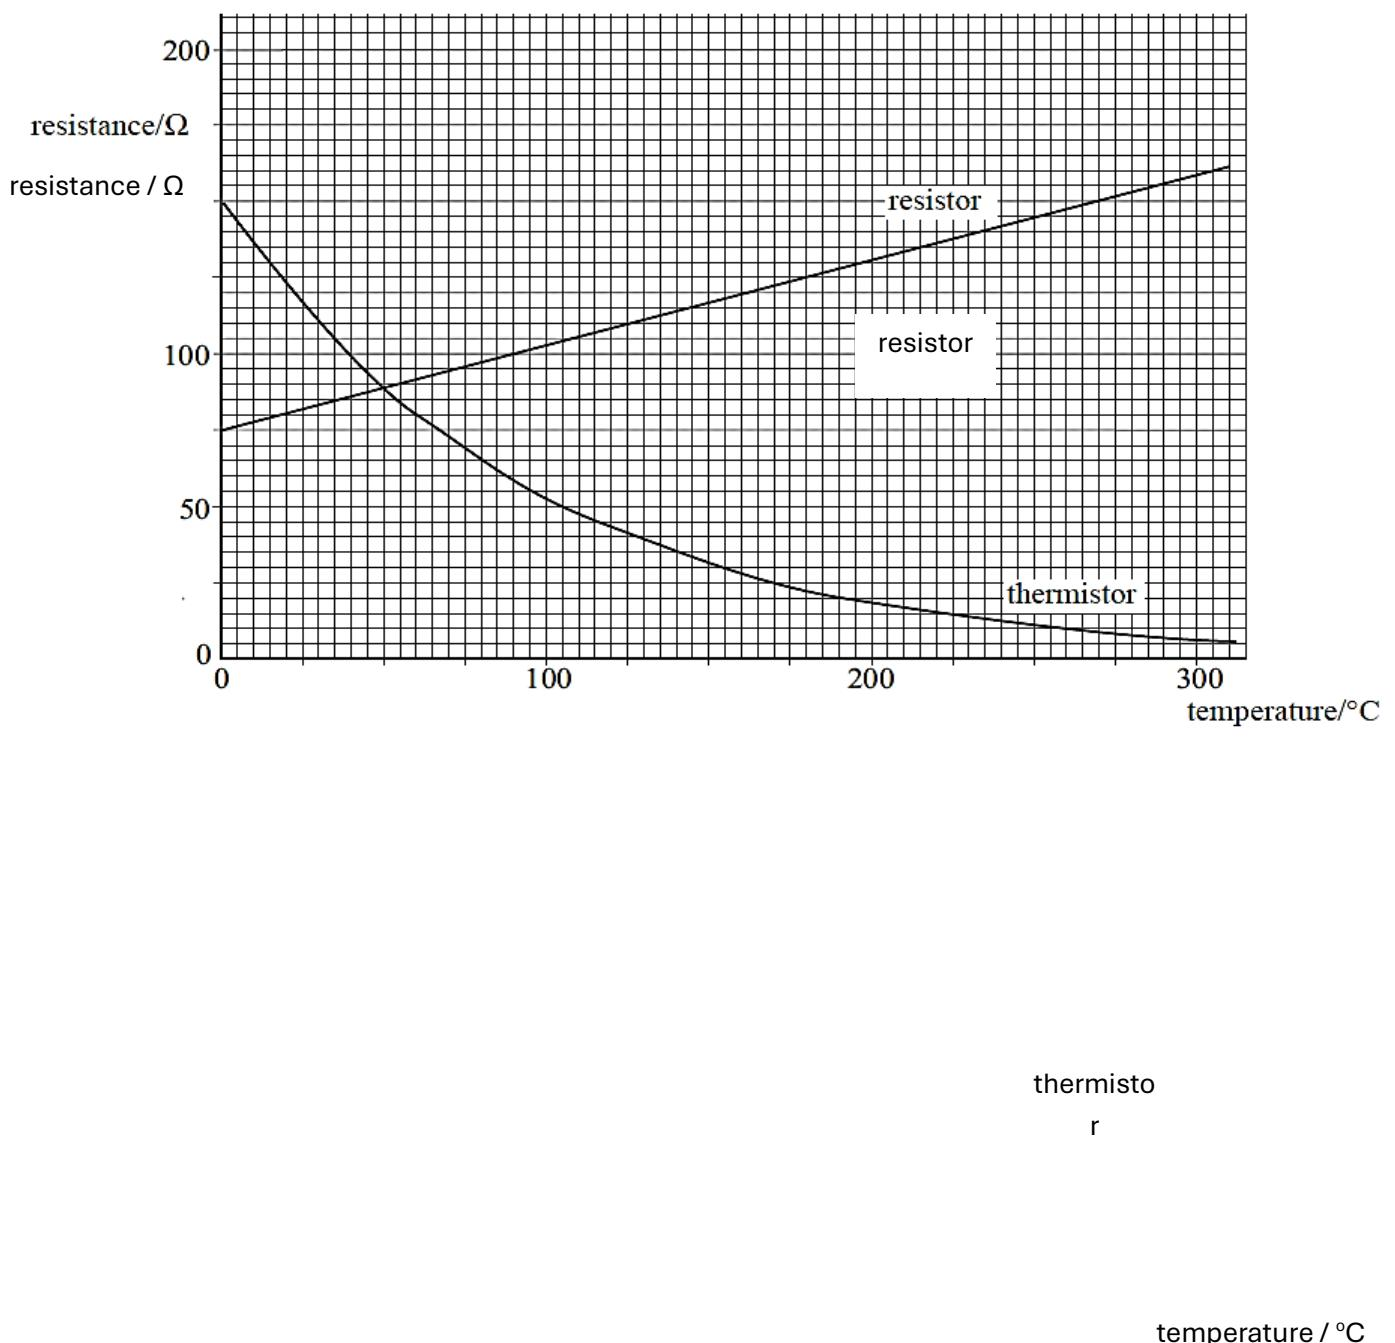

Fig. 5.1
- 5 (a) The graph Fig. 5.1 shows how the resistance, R_R , of a metal resistor and the resistance, R_{Th} , of a thermistor change with temperature.